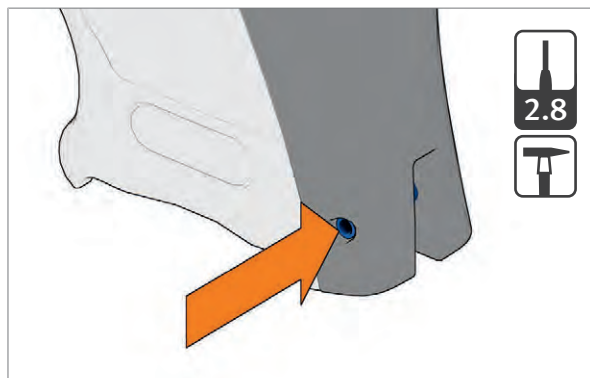

Fig. 21: Driving out clamping sleeve for back strap
1. Driving out clamping sleeve for back strap (Fig. 21).